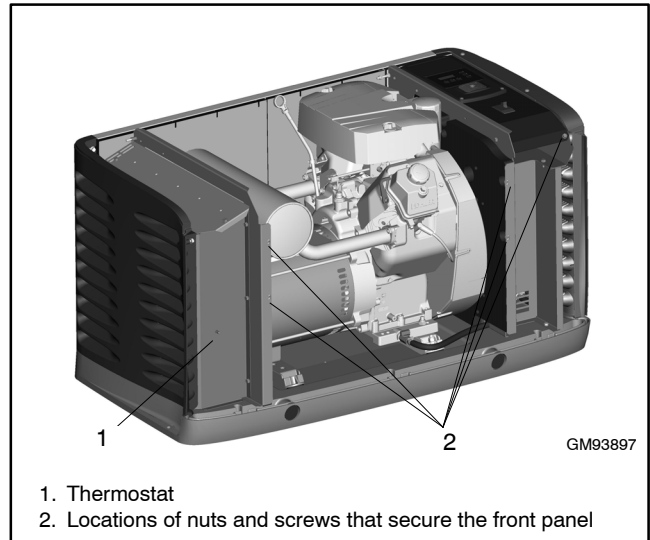

Figure 5-4 Thermostat Location, Model 20RESC/RESCL
Model 20RESCand 20RESCL generator sets include a resettable thermostat. See Figure 5-4 for the thermostat location. The thermostat detects excess heat inside the enclosure. If the thermostat trips, the generator will shut down and the controller will display a fault (underspeed, underfrequency, or undervoltage). Check for blocked air inlets and exhaust outlets. Then follow these steps to reset the thermostat.
4. To gain access to the thermostat, remove the front enclosure panel. See Figure 5-4.